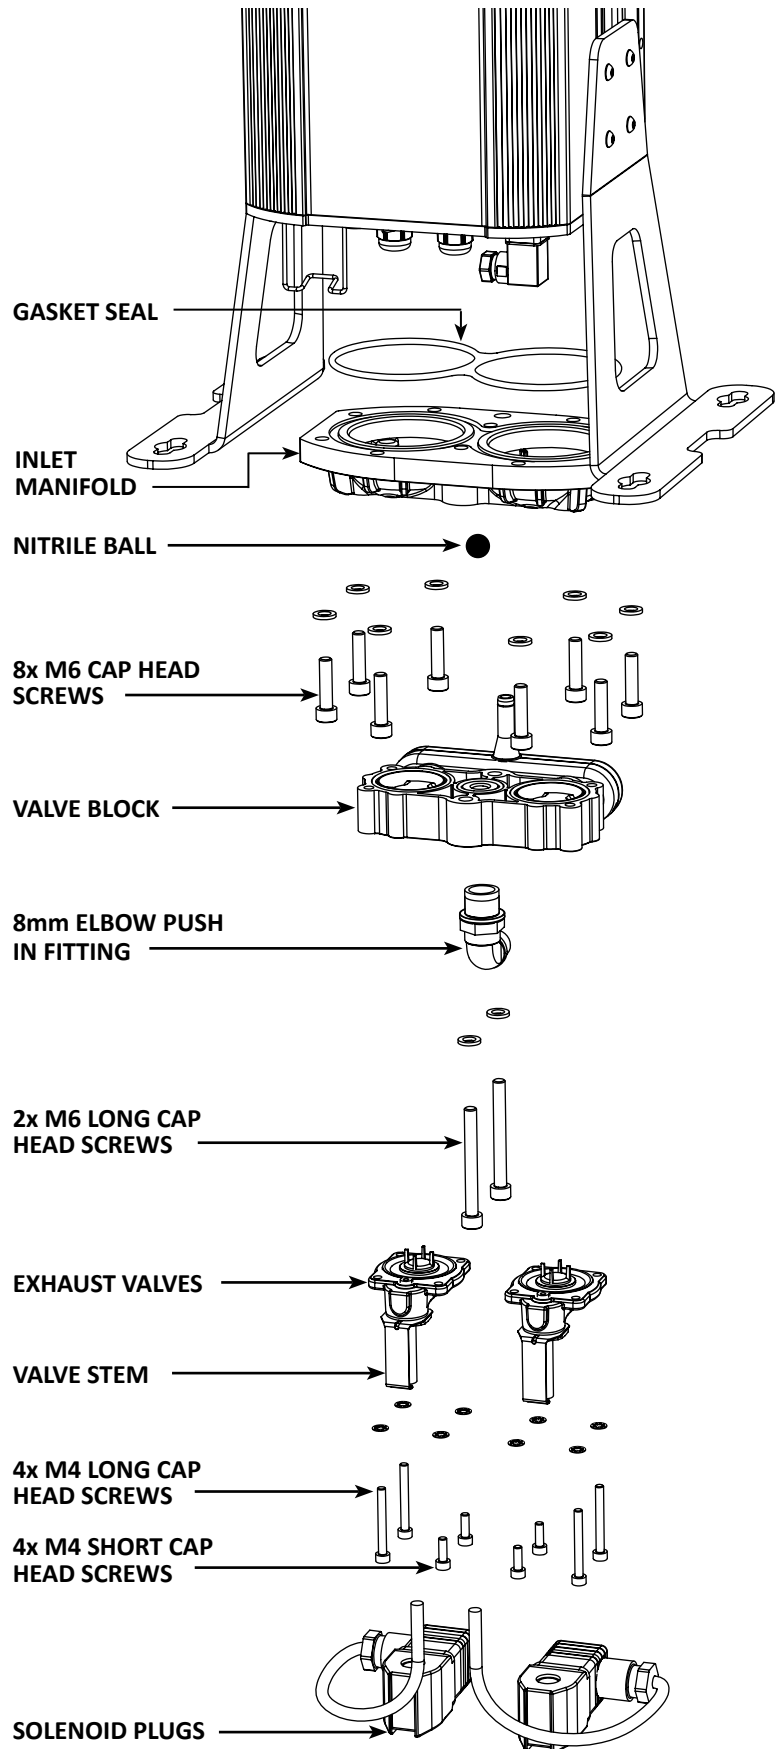

Figure 2.
(refer to figure 2.)
- 11. Unclip the solenoid plug from the valve stem. (See figure 2 & 3 on page 13)